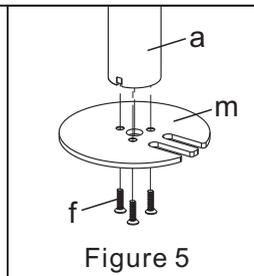

Figure 5
2. Install the Grommet Base Plate(m) to the Pole(a) using 3pcs M5x16 Bolts(f), see Figure 5.